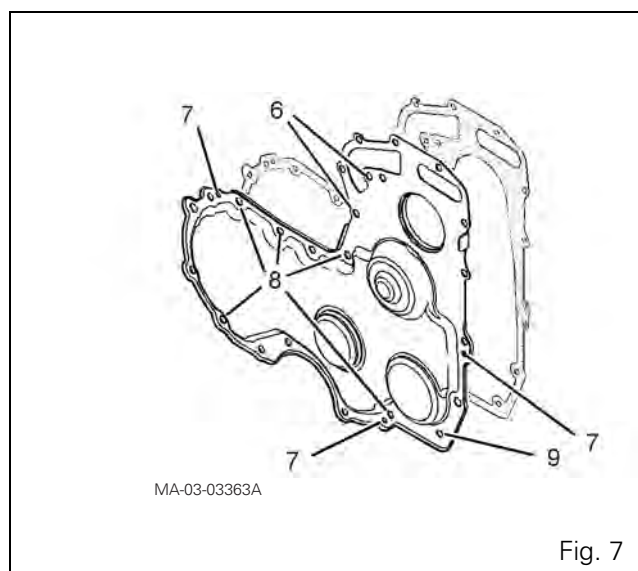

Fig. 7
41. Position two guide studs in the appropriate holes (6) (Fig. 7). Check for the presence of three dowel pins (7) (Fig. 7) and ensure they are in good condition. Replace them if necessary.